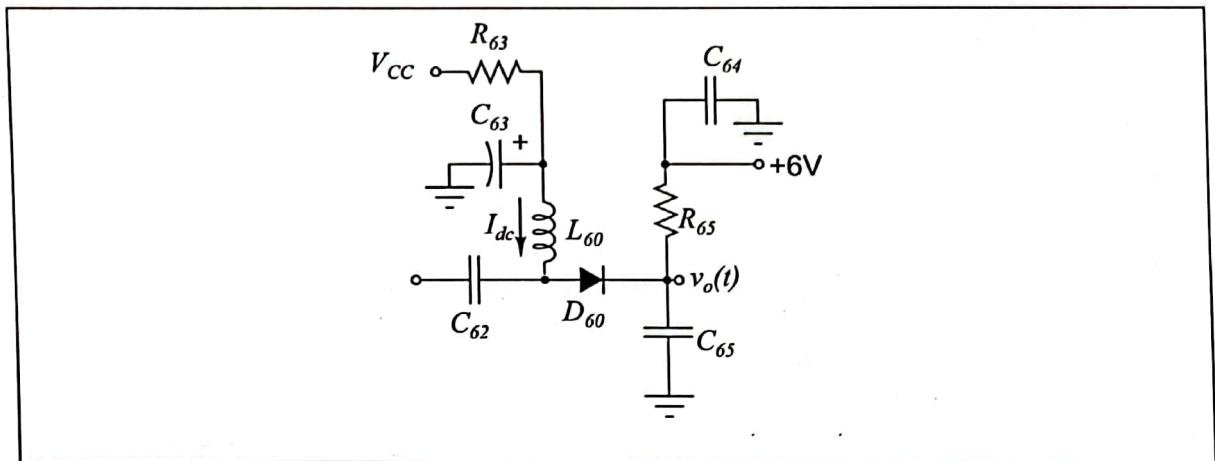

Figure 1: TRC-11 envelope detector circuit.
1. The envelope detector circuit of TRC-11 is given in Fig. 1. It serves to recover the AM modulation signal present on the RF signal. It does so by rectifying the positive side of the AM modulated signal. A low-pass circuit composed of C65 and R65 gets rid of the RF signal frequency.
- A PIN diode acts like an RF resistance whose value is determined by the DC current flowing through it. It is inserted between the first and second IF amplifiers when the jumper JP70 is shorted. If the DC current through it increases, its resistance reduces and hence attenuates the signal going to the second IF amplifier as shown in Fig. 1. Refer to the datasheet of the PIN diode on page 399. Find the reverse breakdown voltage,  $V_R$ , and the series RF resistance,  $R_S$ , and the forward voltage,  $V_F$  of the PIN diode when 1 mA DC flows through it.